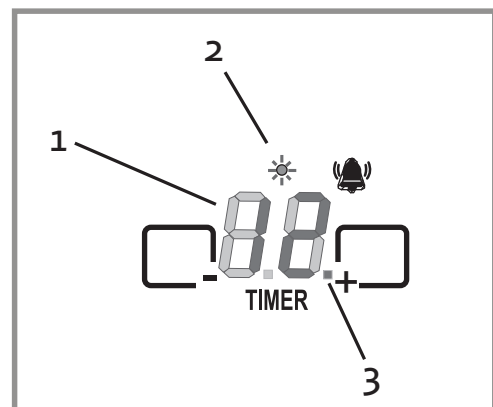

Figure 11.
- If more than one timer is set, the display shows the lowest value, the one that will expire first. The timer LED (ref. 4) related to the zone which the displayed value is referring to, is flashing. If the displayed value refers to the independent timer, the timer LED (Figure 11 ref. 2) flashes.